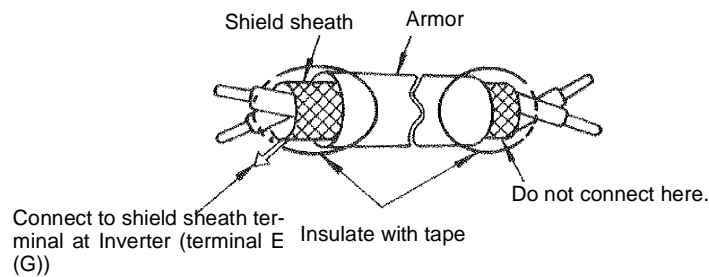

Fig 2.33 Processing the Ends of Twisted-pair Cables
- Use twisted-pair or shielded twisted-pair cables for control circuits to prevent operating faults. Process cable ends as shown in *Fig 2.33*.
- Connect the shield wire to terminal E (G).